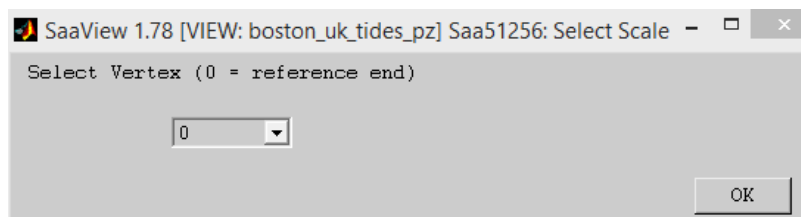

Figure 7.59: 'Vertex Selection' window.
- Selecting either of these menu items result in the window seen in **Figure 7.59**.